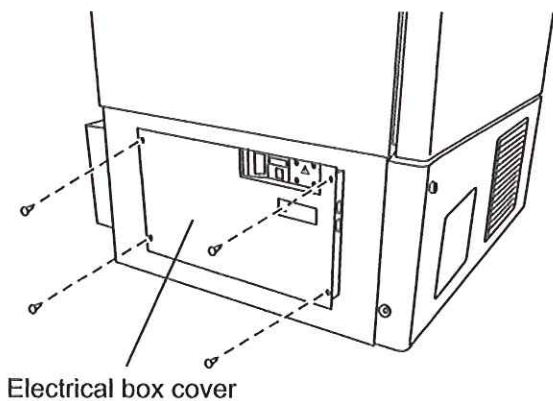

Fig. 3
3. Remove 4 screws fixing the electrical box cover with a screw driver. (Fig. 3)